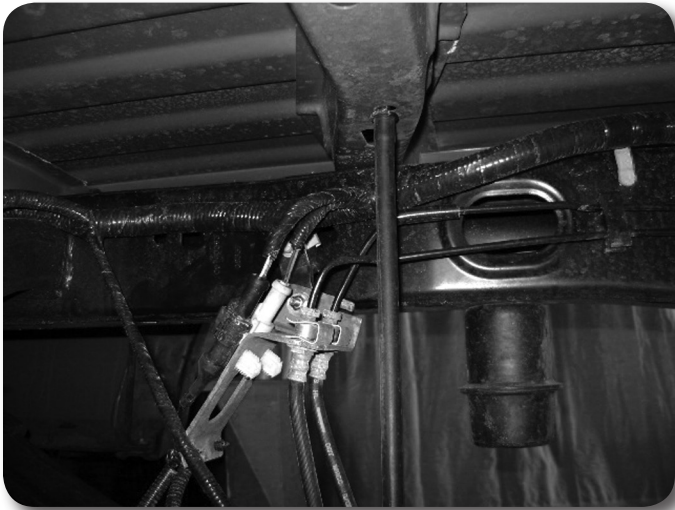

Figure 28
17. Install the provided brake line relocation bracket to the driver's side frame rail with the factory brake line bracket bolt Figure 28. Torque to 15 ft-lbs.